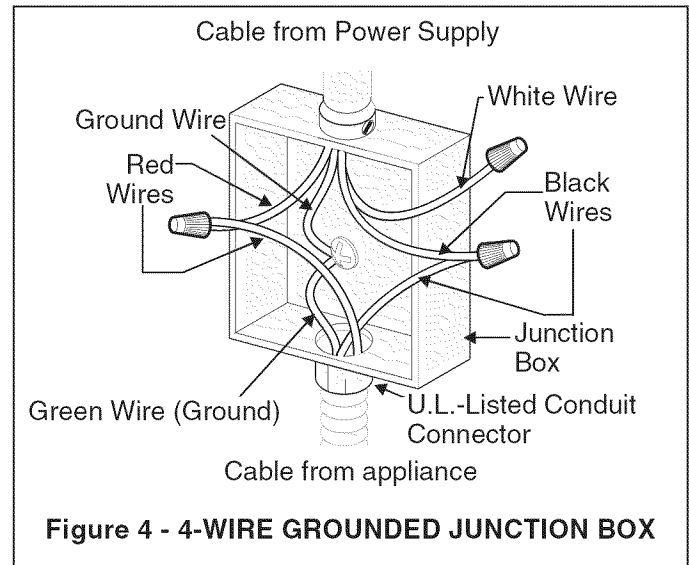

Figure 4 - 4-WIRE GROUNDED JUNCTION BOX
(white) wire. When grounding to the neutral (white) wire is prohibited, you must use a 4-wire power supply cable. See Figure 4. Failure to heed this warning may result in electrocution or other serious personal injury.
If cooktop is used in a new branch circuit installation (1996 NEC), mobile home, recreational vehicle, or where local codes DO NOT permit grounding to the neutral (white) wire (see figure 4):
2. In the circuit breaker, fuse box or junction box, connect appliance and power supply cable wires as shown in figure 4.